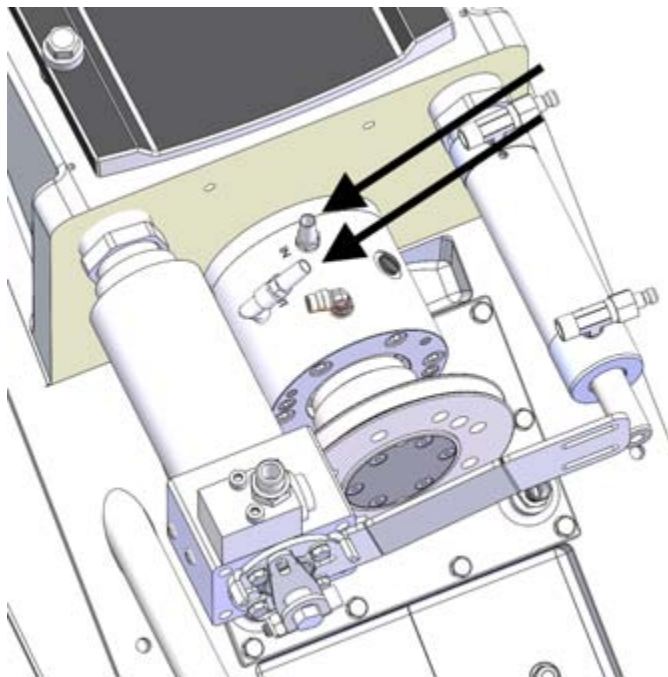

Figure 2. Lubricating oil reservoir connectors
1. Detach the lubricating oil reservoir connectors off of the bearing housing (figure 2) and drain the oil from the system.